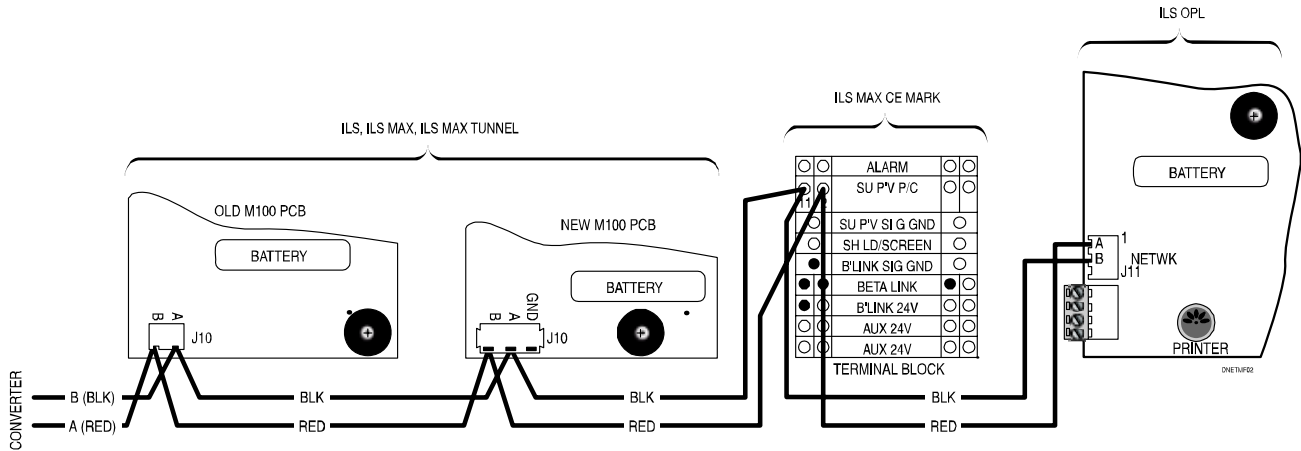
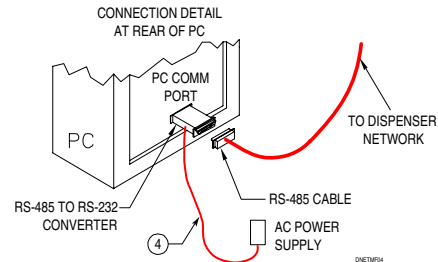
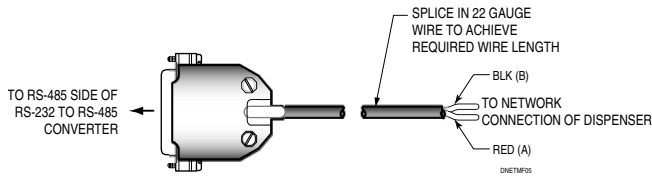

Figure 2. Multiple Dispenser Models in a Dispenser Network
Figure 4. Network to Local PC Connection Using Converter
Figure 5. RS-485 Cable
- Disconnect power to all of the dispensers and locate their network connections. Remember that these connections are polarized. Connect A of one unit to A of the next unit and B to B. (The polarity markings are visible when the connector portion is disconnected from the PCB). Disregard +/- designation. You can also connect different model dispensers into a network, as shown in Figure 2. Take special note of polarity connections between units (see Figure 3). You may need to lengthen your RS-485 cable to accommodate the new network. Use a 22-gauge (CSA 0.35mm2) twisted-pair cable. Refer to Figure 5 for exact wiring details.
Refer to Figure 4. Connect the 25-pin D-connector end of the cable to the RS-485 side of the Converter. You may need to lengthen your RS-485 cable to accommodate the new network. Use a 22-gauge (CSA 0.35mm2) twisted pair cable. Refer to Figure 5 for exact wiring details.